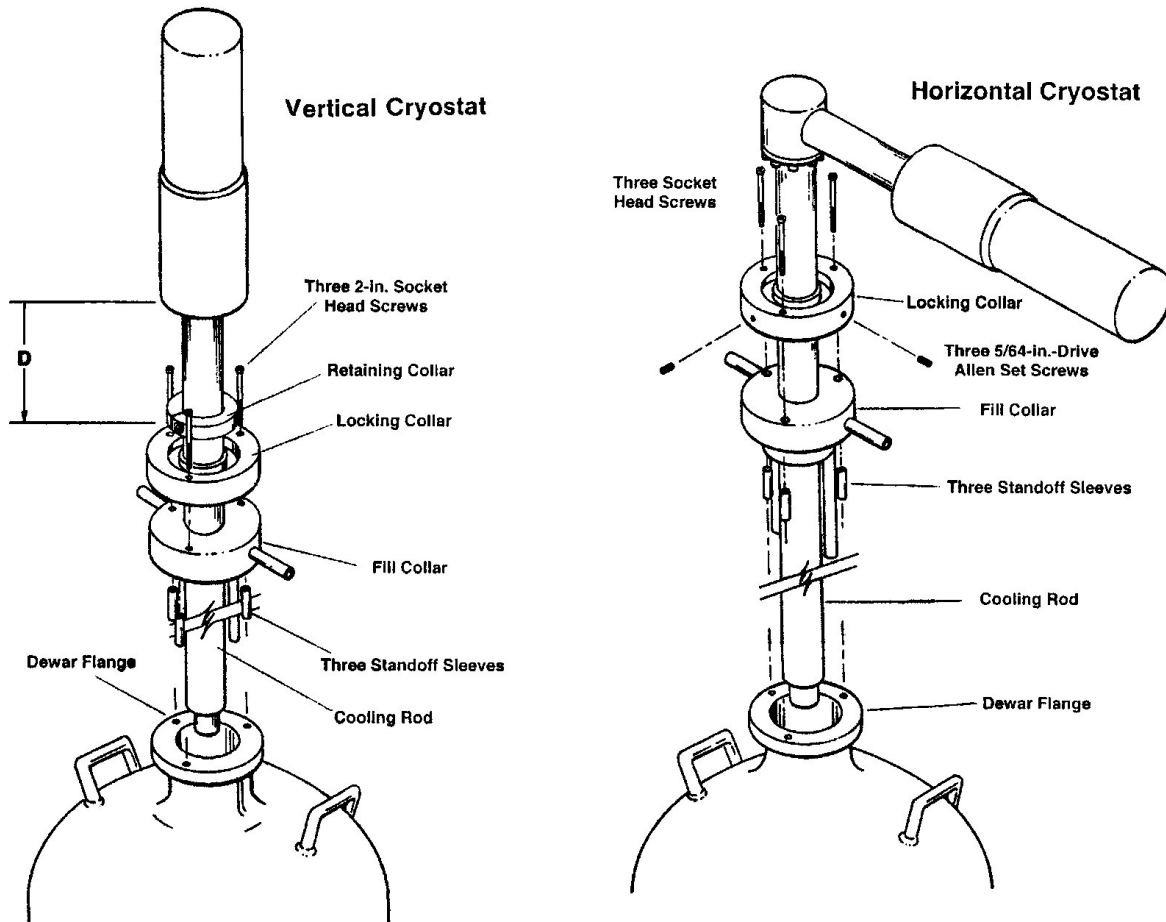

Fig. 2.1. Vertical and Horizontal Cryostat Mounting Arrangements.
1. Using Figure 2.1, verify that all components and hardware are in their proper place.
2. Distance "d" in Figure 2.1 should be minimized but >3/4 inch.